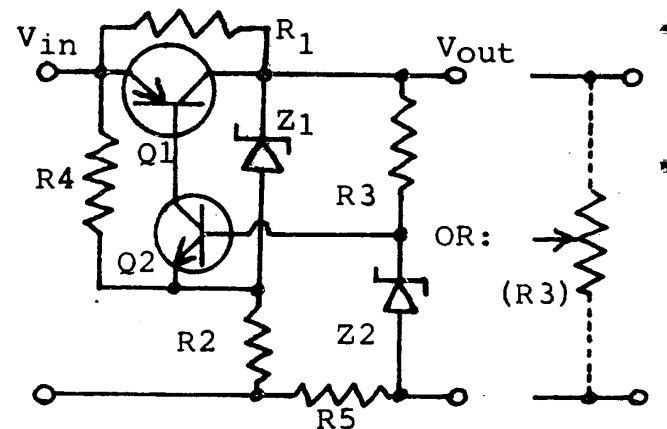

FIG. 3: IMPROVED REGULATOR
3) If you want the Ultimate -- at little extra expense and trouble, R4 in the more elaborate circuit of fig. 3 can be added to make the output completely constant with changing supply voltage. Similarly, R5 can make the output remain constant with varying load. It is not even hard to make the output voltage rise with increasing load! ((But take note of the cautions on p. 109 of our article last month -- Ed.))
Fig. 3 shows the system I used to calibrate the VHF ranges. It beats the output of the GDO against the harmonics of a 5Mc crystal. The set-up shown is good to the limit of the GDO (about 230Mc) with 200mW d.c. input to the oscillator multiplier, at which frequency the beat note is about 6 to 10db above the beat note with Channel 10 (at about 5 miles from transmitter), and still perfectly useable.
In fig. 3 the crystal was ground up from 4995kc (as available); for fine adjustment the capacitor in series with the crystal is zero beated with WWV. The oscillator transistors were TO18 silicon types, uncritical but they must have good frequency response. The tap on the output tank coil is one-third up, LC to suit range. Tuning is rather sharp.